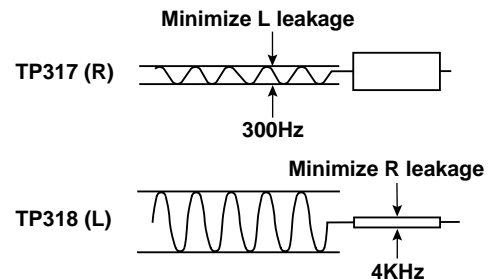

Figure 8. Separation Adjustments
13. Adjust the + or – key for minimum low frequencies at TP317. (See Figure 8.)
16. Adjust the + or – key for minimum high frequencies at TP318. (See Figure 8.)